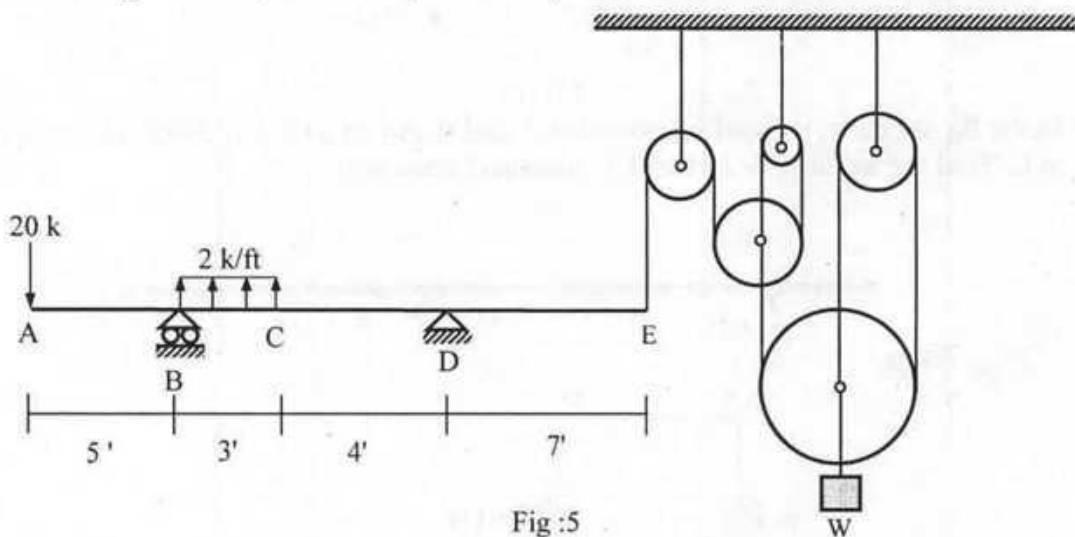

Fig :5
5. In the fig: 5 shown below calculate the reactions at supports B and D and the shear force and bending moment at C. Given, $W=300$ kip.